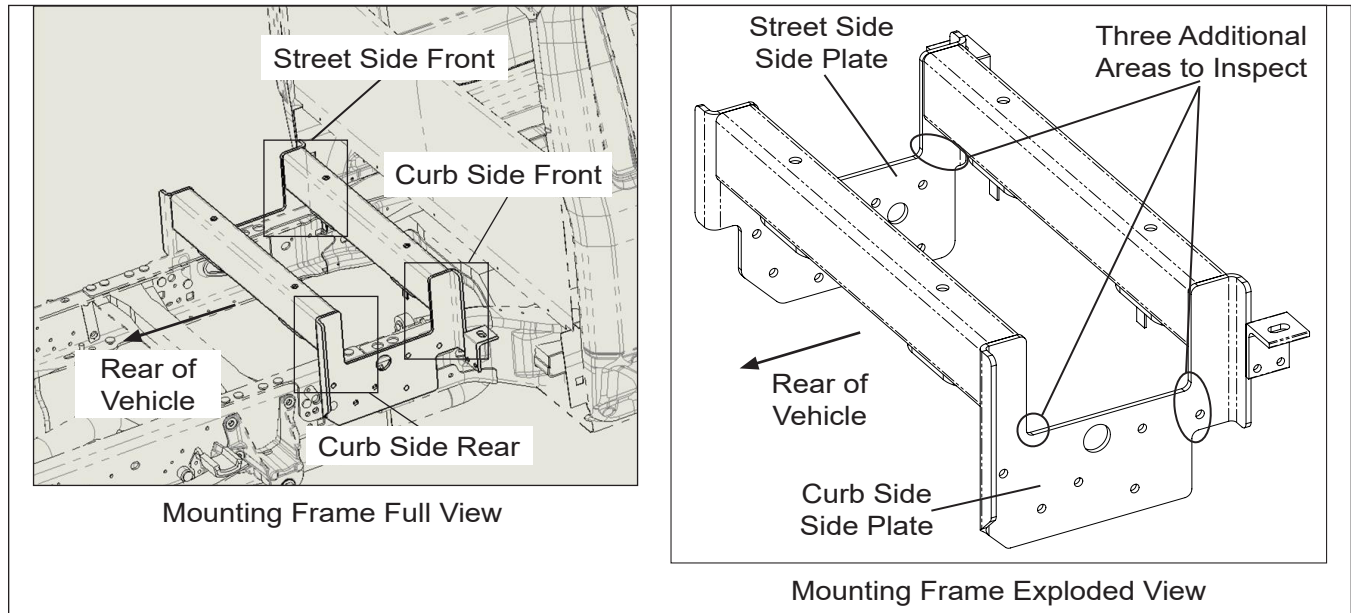

Figure 4 – Mounting Frame Additional Inspection B
8. Use a wire brush to remove any paint and rust from the other three corners of the mounting frame (refer to Figure 4).
9. Using a flashlight, inspect the outer surface and the rounded corners of the other three corners of the mounting frame as shown in Figure 4 for the extent of any cracking in the steel plate.